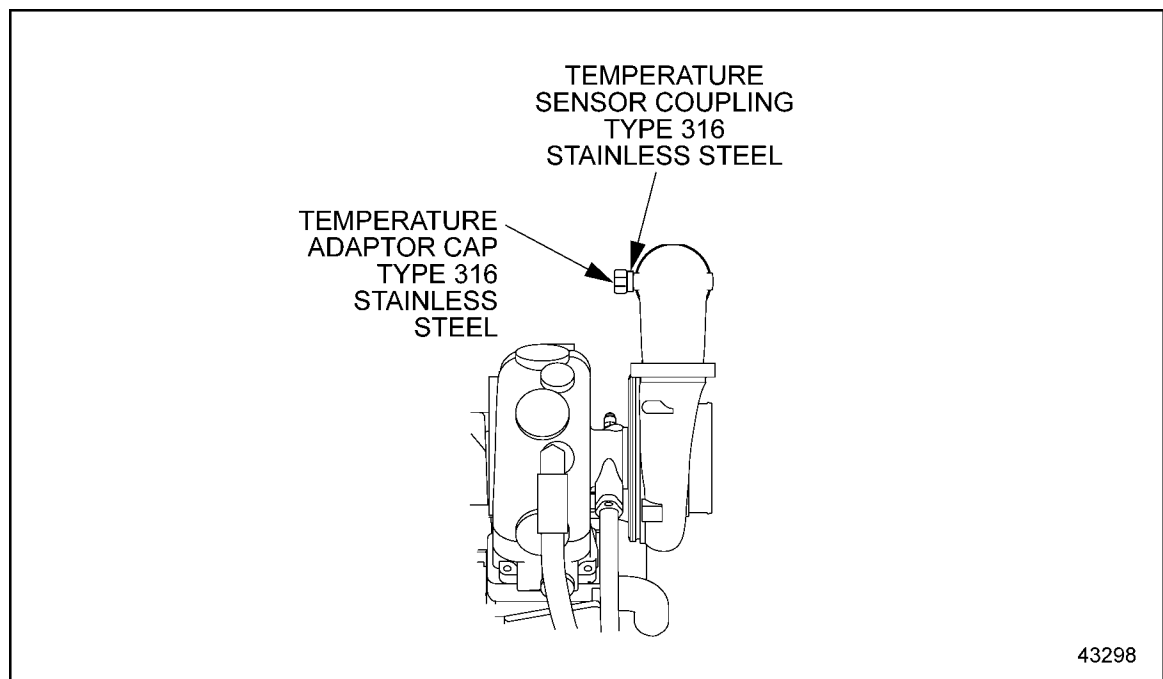

Figure 2 Temperature Sensor Coupling Prepared for Welding
3. With the power harness disconnected from the engine ECM, seat the CTO sensor adaptor (parts list item 1) on the surface of the CAC piping. The threads of the adaptor should face a protected area. Install the adaptor cap (parts list item 2) by rotating it approximately four (4) full turns, and then weld the adaptor in place. See Figure 2.